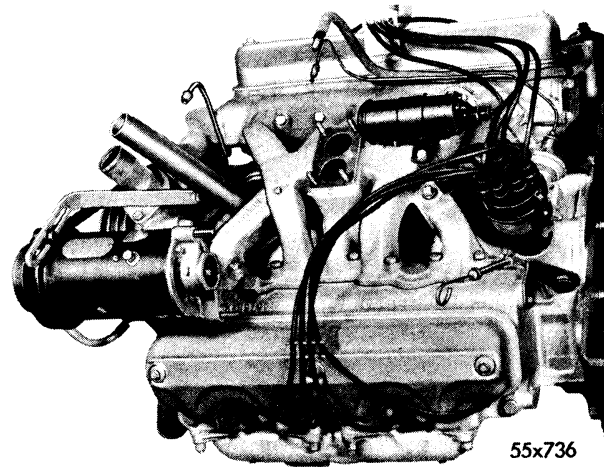

Fig. 80—Ignition System Installed
- (7) Install the distributor cap and spark plug cables. Engage the ends of the cables to the plugs. (See Fig. 80).
- (8) Install the fuel line at fuel pump, then insert the vacuum tube in position and tighten connections securely. Install the oil gauge tube.
- (9) Install the automatic choke heat tube in the exhaust manifold.
- (10) Install the generator, mounting bracket and the adjusting strap. Tighten bolts securely.